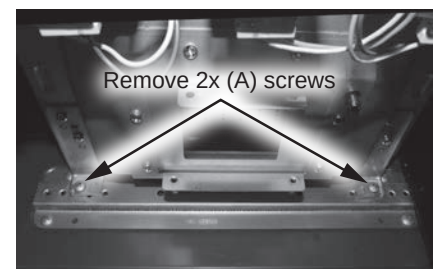
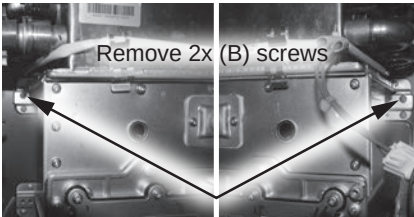

Figure 152 - Removing primary HEX (A) screws
Figure 153 - Removing primary HEX (B) screws
- 44 Locate the bottom horizontal bracket and two (A) screws securing the primary heat exchanger assembly to the backside of the water heater cabinet as shown in Figure 152. Use a 12" magnetized Phillips screwdriver to remove the screws. Place them aside in a safe place for reinstallation.
- 45 Locate the upper horizontal bracket and two (B) screws securing the primary heat exchanger assembly to the backside of the water heater cabinet as shown in Figure 153. Use a 12" magnetized Phillips screwdriver to remove the screws. Place them aside in a safe place for reinstallation.
75 Locate the four primary heat exchanger mounting screws previously removed in **Steps 44 & 45**. Use a 12" magnetized Phillips screwdriver and four screws to secure the heat exchanger to the two horizontal brackets. See Figure 152 & Figure 153.